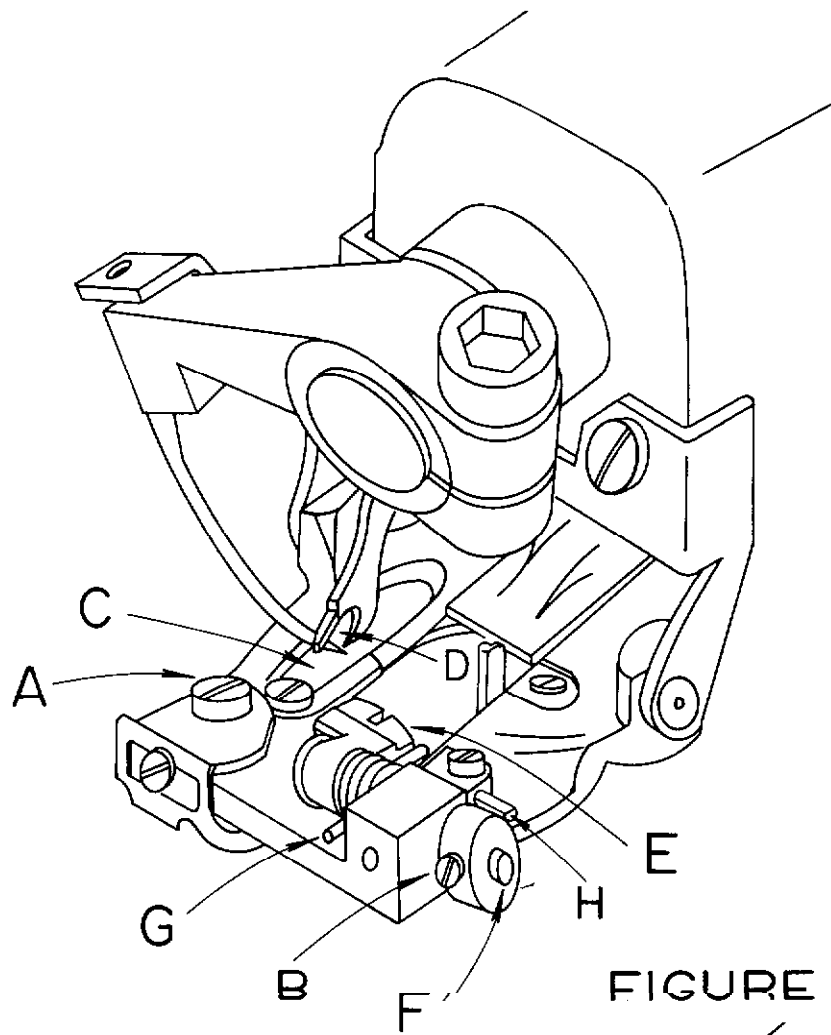

FIGURE 8
6. Once the looper is timed with respect to the needle as outlined in paragraphs 2 thru 5 above, slowly **turn** the handwheel in a direction away from the operator, until the looper approaches the edge of the looper slot. (Point “C” in Figure 8) in the presserfoot. At this point make sure the small prong of the looper clears this edge. If it does not clear, adjust the eccentric block as outlined in paragraph 5 until the interference is eliminated.
7. Continue turning the handwheel away from the operator until the point of the needle starts to enter the area in between the looper prongs. (Refer to Point “D” in Figure 8). If the needle strikes the crotch of the looper, the looper has generally been set too far forward. Check to see if the looper has been inserted into the clamp as far as it will go. It should be inserted until the shoulder on the looper is stopped on the clamp. If this check is satisfactory, recheck the distance from the center of the looper rod fork pin to the rear face of the looper rod ball. Refer to paragraph 4 and reset if necessary. If neither of the above two measures corrects the problem, it is possible that the needle lever **may** be set too low and required adjustment.
1. The shoe, (item "E" in Figure 8), also known as a cloth retainer, normally will not require replacement. However, in the event of wear due to the particular fabrics being used, or if the shoe or spring suffers any damage, they may be readily replaced.
2. The first step is to remove the complete front guide assembly by unscrewing the front guide holder attaching screw (item "A" in Figure 8). Next loosen the shoe pin and the shoe eccentric barrel lock screws, (item "B" Figure 8), and slide out the shoe pin (item "F"), shoe and retaining spring (item "G"). Before removing these components it is advisable to note the manner in which the spring is assembled so that it may be reinstalled in the same way.
3. When replacing an old shoe, make sure that the replacement shoe properly fits the pin without binding and without excessive looseness. In the event that the pin has worn and does not fit the new shoe properly, it should be replaced at the same time as the shoe-pin. After replacing the shoe, shoe pin spring into shoe eccentric barrel, re-tighten screws (item "B" Figure 8), and check to insure that the center of the shoe is lined up with the center of the rib. Also insure that the shoe clears both sides of the opening of the presserfoot.
4. In and out position of shoe should now be checked. For light fabrics, shoe should be as close to needle as possible. For heavy fabrics with seam, shoe should be set back as far as possible from needle. To move shoe in and out turn eccentric barrel (item "I" Figure 8). After the correct location is established, be sure to tighten screws, (item "B" Figure 8).
- 4A. An additional shoe adjustment is also possible. The height of the shoe can now be controlled, (item "H" in Figure 8). This is a tapered pin and position can be adjusted so that the shoe, whenever required, can be controlled as far as elevation is concerned. By moving the tapered pin in or out the shoe can be kept from pressing down on some fabrics which require little, if any shoe pressure. By having this control, it sometimes will aid in penetration of difficult fabrics. The normal position of the shoe, when set properly on most fabrics, is that the shoe will show movement on the penetration cycle on one ply of fabric.